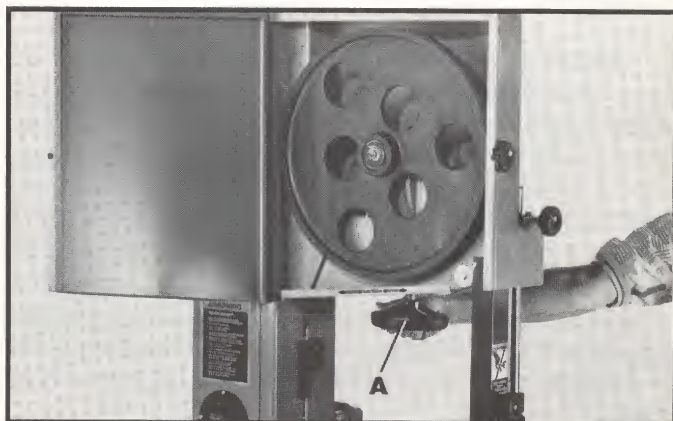
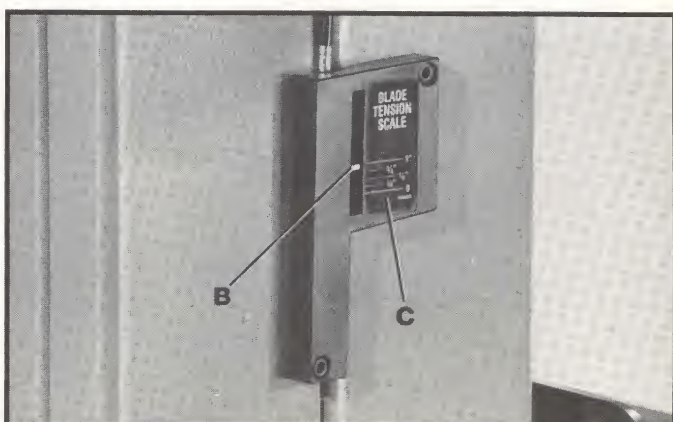

Fig. 9
Fig. 10
1. Turn the blade tension handwheel (A) Fig. 9, clockwise until the pointer (B) Fig. 10, is on the mark on the tension scale (C), which is equal to the blade width.
2. The tension scale (C) Fig. 10, is correct for standard blades used on average work. Experienced operators may rely upon the feel or tone of the blade when adjusting tension. We recommend the use of the tension scale (C) to avoid blade breakage by applying too much or too little tension.